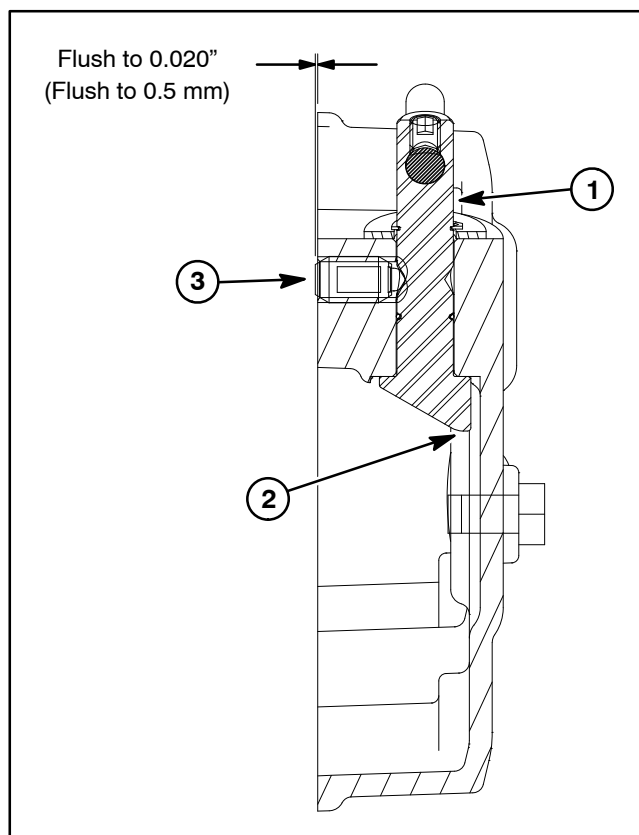

Figure 6
- C. Slide shaft up through bore of cover and secure with thrust washer and retaining ring. Position shaft in cover so that cam point of shaft is located away from the gasket surface (Fig. 6).
- D. Install plunger detent into groomer cover so that end of plunger is flush to 0.020" (0.5 mm) extending from cover surface (Fig. 6).